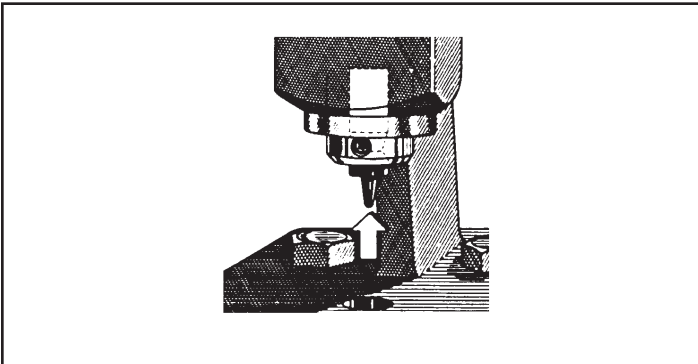

Figure 16. Replacing the Punch
2. Insert a new punch into the holder and push it up until it is fully seated (Figure 16). Secure the punch to the chain breaker holder by fully tightening the set screw.